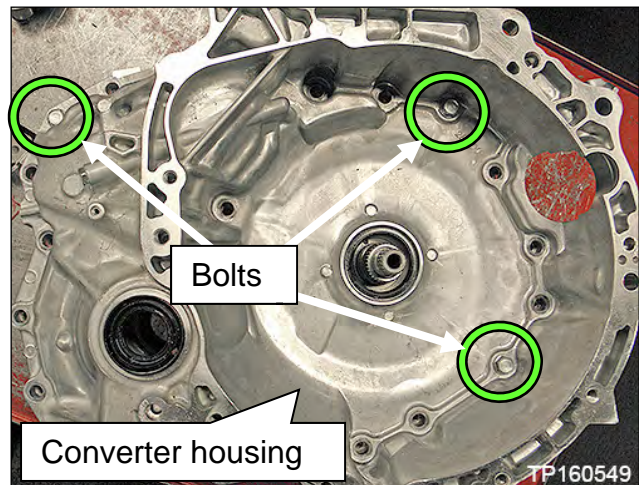

Figure 72
49. Temporarily install the converter housing onto the CVT case with three bolts finger tight (Figure 72).